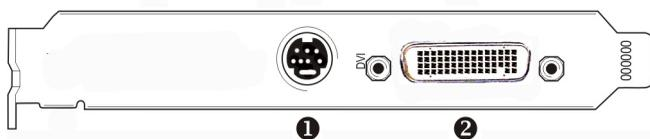

Figure 6:
10. Connect your BARCO CORONIS Displays to the display controller(s) for your BARCO CORONIS Display System using the cables supplied. Make sure all cables are securely connected before turning on your system. Figures 6 - 9 show the types of connections are available: